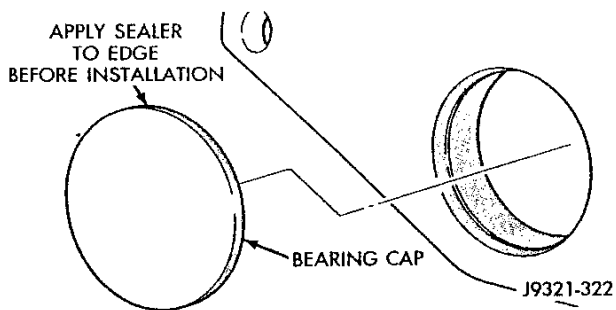

Fig. 60 Countershaft Front Bearing Cap Installation
(7) Install countershaft front bearing cap in case bore (Fig. 60). Apply Mopar adhesive/sealant, or 3M industrial sealant #800 around outer edge of bearing cap before installation.